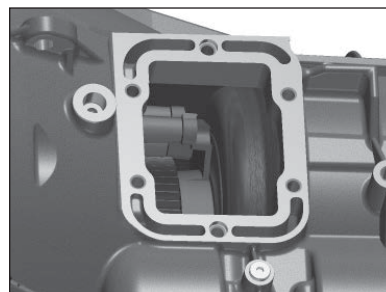

Figure 52
2. Ensure aperture surface is clean (**Fig. 52**). Discard cover plate. **DO NOT** discard the gasket. It will be used when installing the adapter on the transmission (**Fig. 52**).